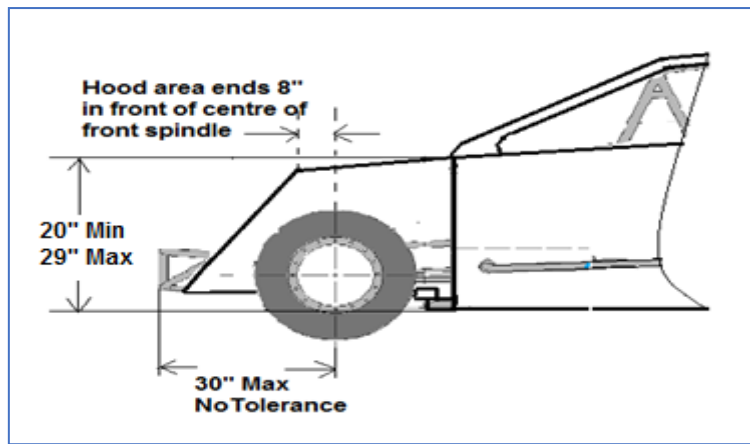

Figure 5
- **Hood** means the front section of the car body that extends from the front of the windscreen to 8” in front of the front ball joint (Figure 5&6).
- **Nose** means the front section of the car body that extends from the front of the hood to the front bumper (Figure 5).
8.1. Hood height (excluding air filter and any plastic or sheet metal cover used to protect the air filter) must not exceed 20 inches min or 29 inches max (**No tolerance**). The hood height is the vertical measurement from the bottom of the lowest point on the main frame rail to the top of the hood (*Figure 5*).
8.8 Front of bumper may not extend more than 30 inches forward of spindle centre (**No tolerance**). Measurements to be taken from centre of either front spindle to the outside of front bumper (*Figure 5*).